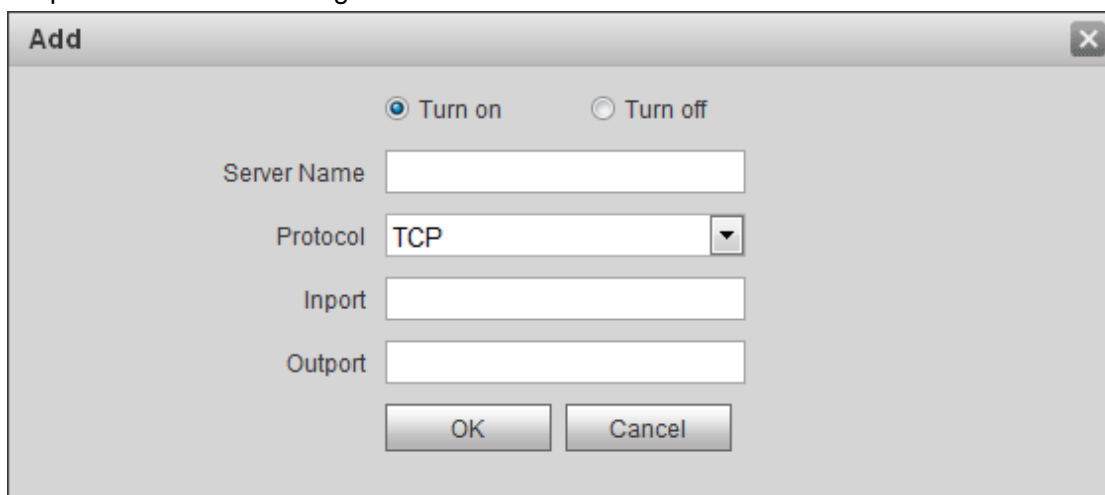

Figure 4-31
Step 3. Click Add. See Figure 4-31.